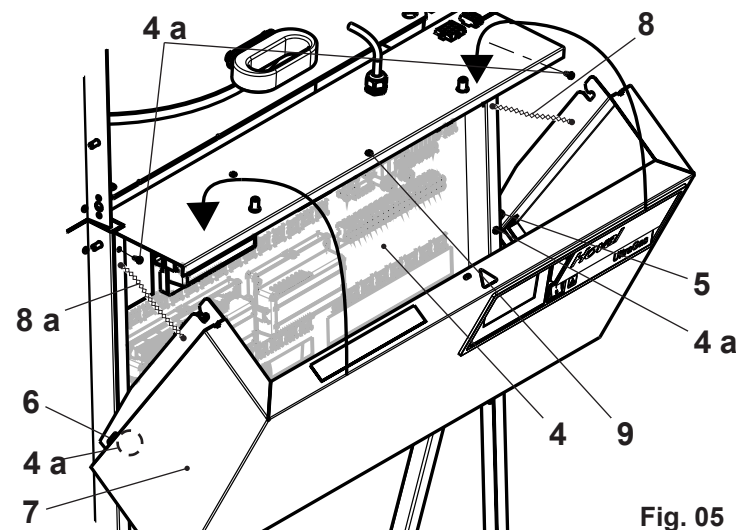

Fig. 05
3. Attach rear wall (4, Fig. 05) of the electrical box using 4 screws (4a). Align side walls (3, 3a) in the centre of the boiler and tighten using screws and washers (3b, Fig. 04).
4. Fit the stud (5, Fig. 05) on the right. Hook in the electrical box at the bottom on the side of the stud (6). Hold the electrical box (7) horizontal and tighten with the second stud (5) on the opposite side. Fasten the safety cord (8, 8a) on the right and left. Fold the electrical box closed upwards, lift it and hook it in, then secure with the screw (9).